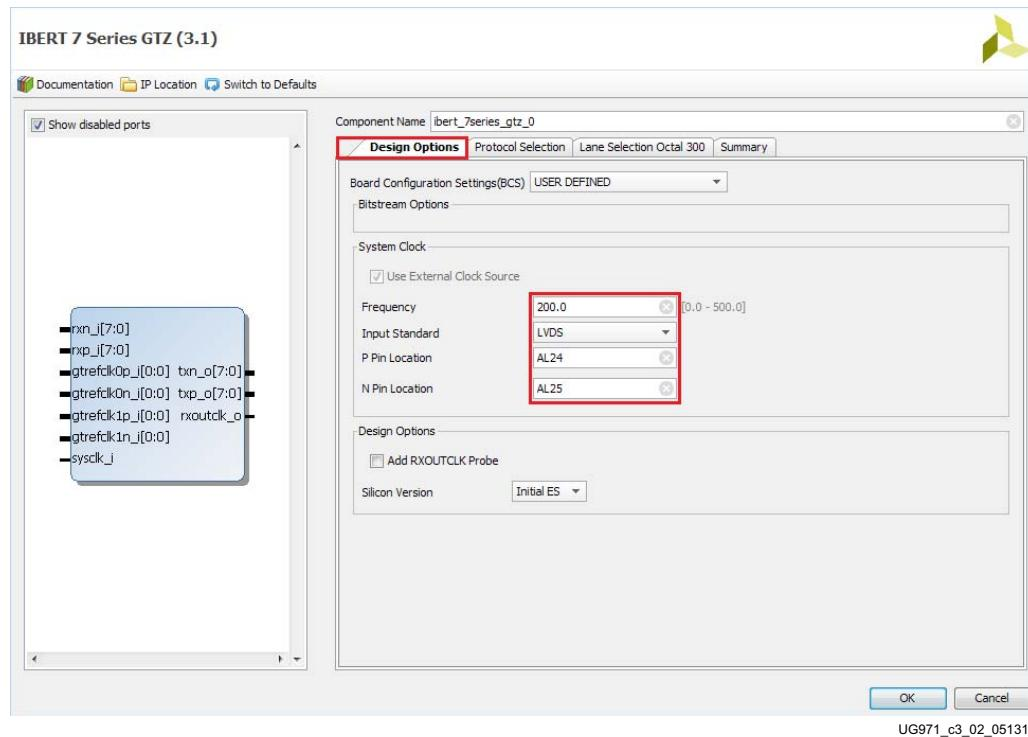

Figure 3-2: **Customize IP - Design Options**
2. A Customize IP window opens. In the Design Options tab, set the system clock frequency to **200 MHz**, the input Standard to **LVDS**, the P and N Pin location to **AL24** and **AL25**, respectively (Figure 3-2).